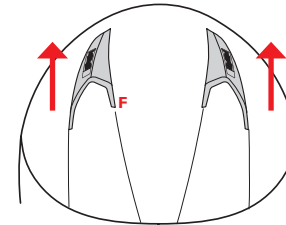

FIGURE 5
- Figure 5: Slide the cursors backwards to completely open the air intake